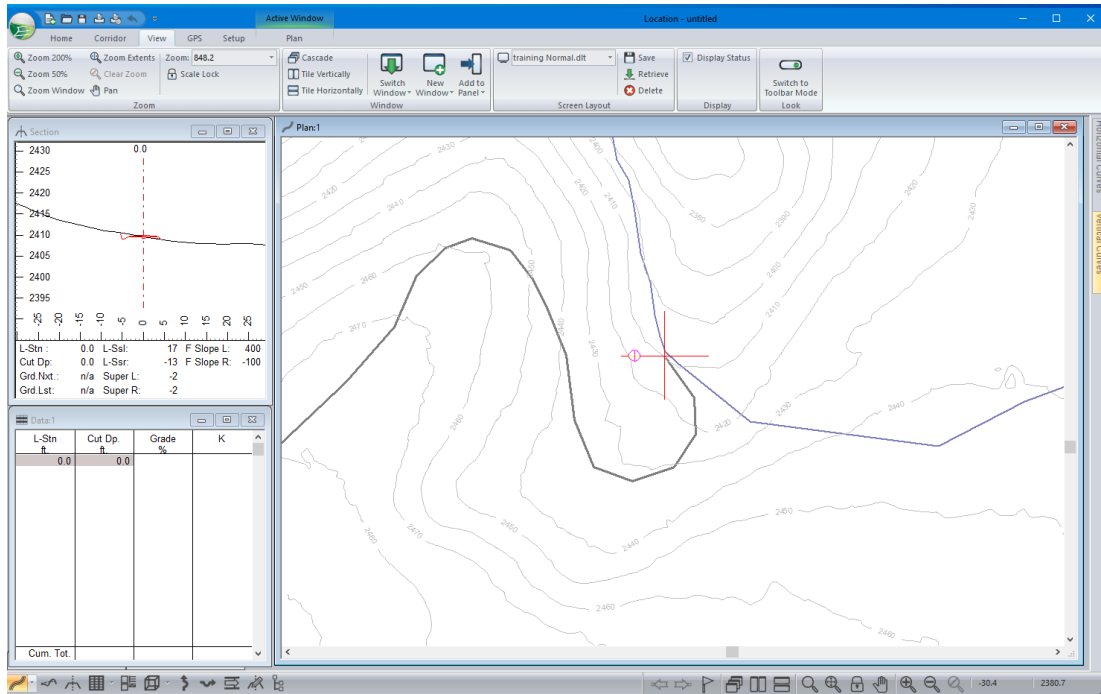

Figure 6-4: Training Normal Screen Layout
6. Use the *Screen Layout* toolbar drop-down (figure above) to open **training\training Normal.dlt**. The screen now should look similar to Figure 6-4.
On your screen (Figure 6-4 above) you can see the original ground DTM in the Plan background; the line work is faded so it doesn't overwhelm the new alignment features.